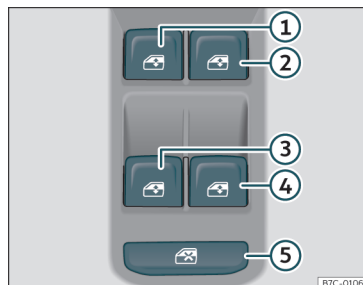

Fig. 83 Detail of the driver's door: window controls.
The safety control >>> **Fig. 83** ⑤ on the driver door can be used to disable the electric window buttons on the rear doors.